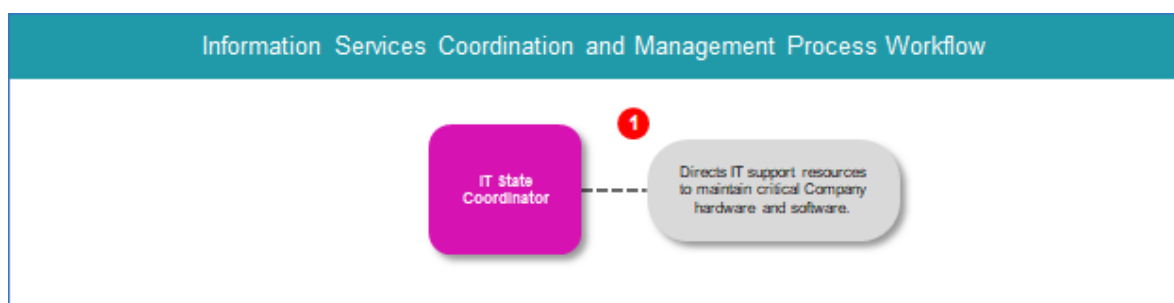

Figure 27: IT Coordination and Management Process Workflow
Information Technology (IT) support resources are available to address any issues that might arise with hardware or software that is critical to a successful emergency response. These resources are coordinated and dispatched by the IT State Coordinator. The IT State Coordinator may be notified of IT issues during System Level and State Level briefings and may reschedule planned IT maintenance on critical systems in anticipation of an Emergency. Refer to Figure 27, "IT Coordination and Management Process Workflow" below.